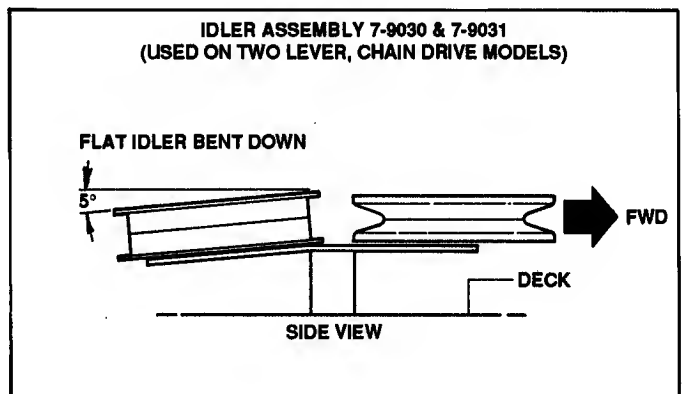

FIGURE 11.16
- (b) A common problem encountered with the 1988-90 double idler weldment is that someone, at some time, has taken the bend out of the flat part of the idler weldment. For those decks requiring this idler assembly, the idler weldment MUST BE ANGLED DOWN FIVE DEGREES (5°). See Figure 11.16.
If the flat idler is not set at five degrees (Refer to Figure 11.16), then the deck drive belt will become frayed, broken or loose from the drive pulley.